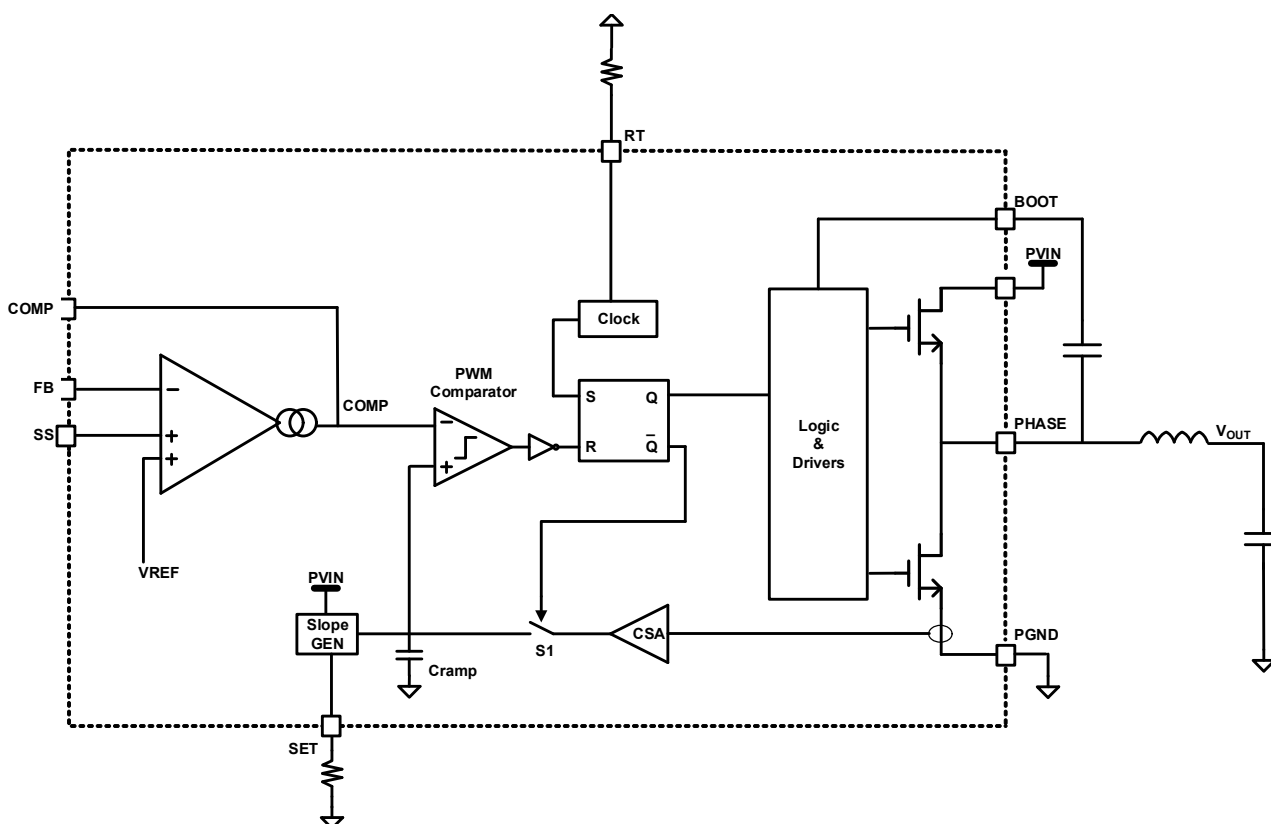

Figure 51. PWM Fixed Frequency Functional Block Diagram
Figure 51 shows the functional block diagram for RAA211650. The output voltage is sensed by a resistor divider from  $V_{\text{OUT}}$  to the FB pin. An internal transconductance error amplifier (EA) compares FB voltage with the internal 0.8V reference voltage and produces an amplified compensated signal COMP to minimize the error in  $V_{\text{OUT}}$ . The EA has internal compensation, which provides stable operation across the device operating range. EA uses internal compensation when COMP is connected to AVCC. An external RC network can be between the COMP pin and AGND to use external compensation. The COMP signal is compared with the sum of sensed low-side current and the slope compensation generator. At the rising edge of the PWM clock, the high-side MOSFET turns on ramping up the inductor current. The high-side MOSFET is turned off when the sum of the sampled low-side current and compensation generator reaches the COMP signal level or when the maximum duty cycle is reached. When the high-side MOSFET is turned off, the inductor current starts to ramp down initially freewheeling through the low-side MOSFET body diode. After a small dead time, the low-side MOSFET is turned on and the inductor current shifts from the body diode to the low-side MOSFET channel. During each switching cycle when the high-side MOSFET is turned on, the inductor stores the energy, and it is delivered to load when it is turned off. The resistor  $R_T$  sets the switching frequency for the regulator.